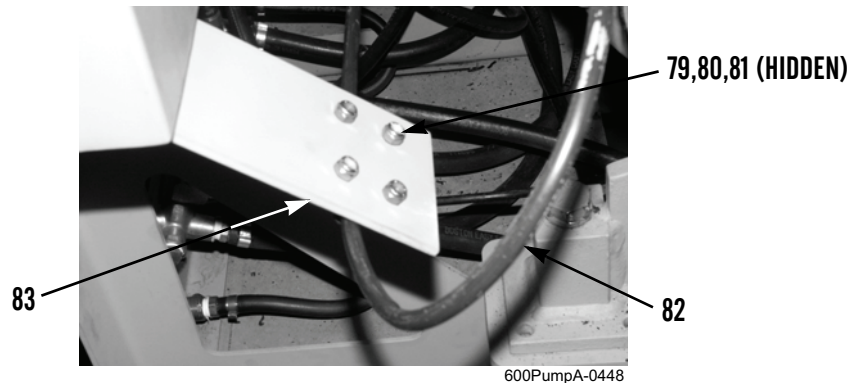

Figure 25. Throttle Control Cable Bracket.
1. Remove four locknuts (Figure 25, Item 79), bolts (Figure 25, Item 80) and two C-clamps (Figure 25, Item 81) from throttle control cable (Figure 25, Item 82) and bracket (Figure 25, Item 83). Discard locknuts.